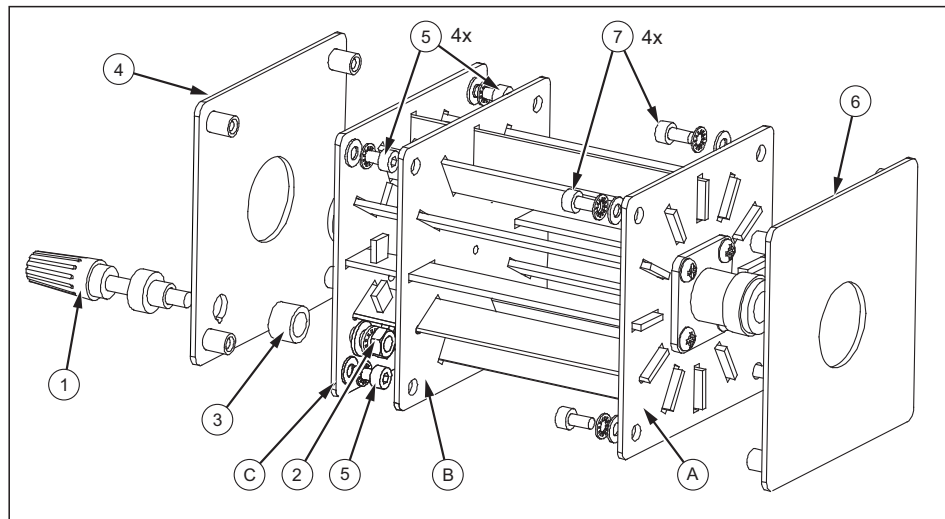

Figure 11. Exploded View of a Shunt
Use the following procedure to replace the binding post and the Aluminum end plates; see Figure 11:
1. Remove the input end plate (Figure 11 - ⑥).
1. Remove the output end plate (Figure 11 - ④).